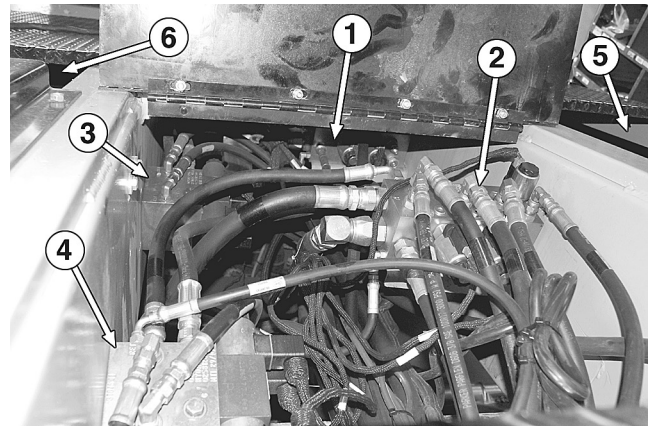
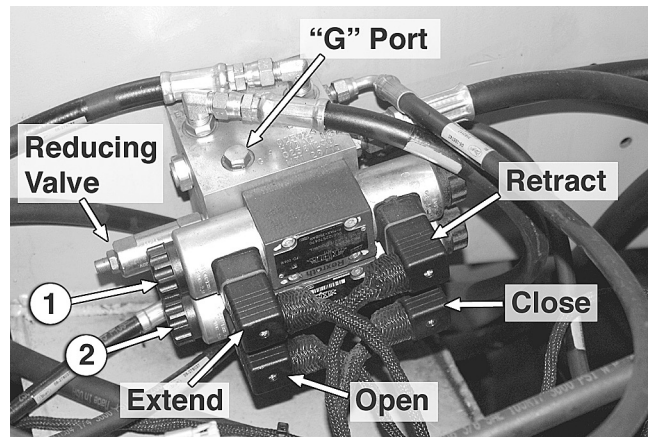

Figure 24.
Figure 25. Hopper/Gate Manifold
3) To adjust pressure, use 3/4" box wrench to loosen jam nut on set screw located on the reducing valve (**Figure 25**) mounted between the conveyors (**Figure 24**). If pressure is low, turn set screw clockwise. If pressure is high, turn set screw counterclockwise. Retighten jam nut.
4) Repeat above procedure for the right gate reducing valve (**Figures 24 & 25**).